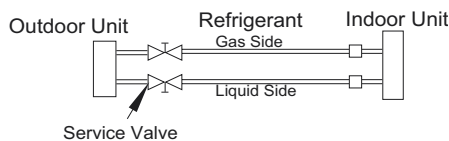

Fig. 34 — Service Valve
1. Completely tighten flare nuts A, B, C, D and connect the manifold gage charge hose to a charge port of the low side service valve (see Fig. 34).